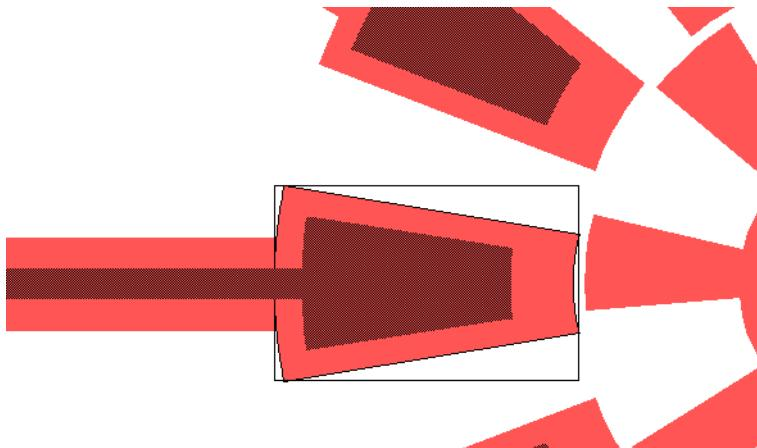

Figure 36: Curving the leftmost edge of the polygon
- Press the **Ctrl** key, hold and drag the center mouse button (**Alt+Left** hold for two button mice) to the left to convert the straight edge into a curved edge. Release the mouse button to complete this action (Figure 36). .